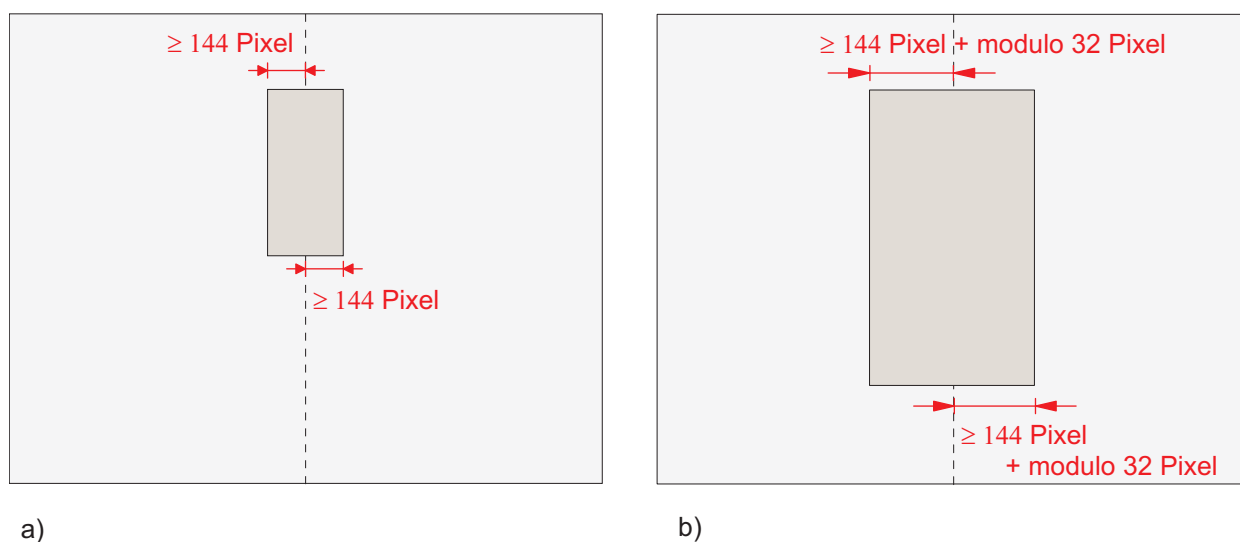
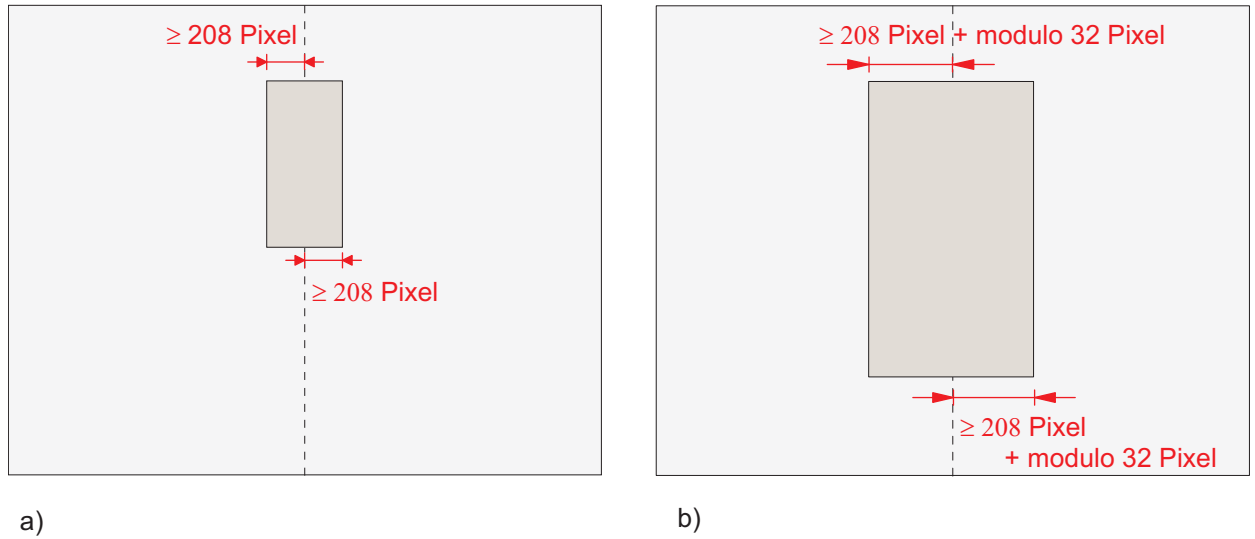
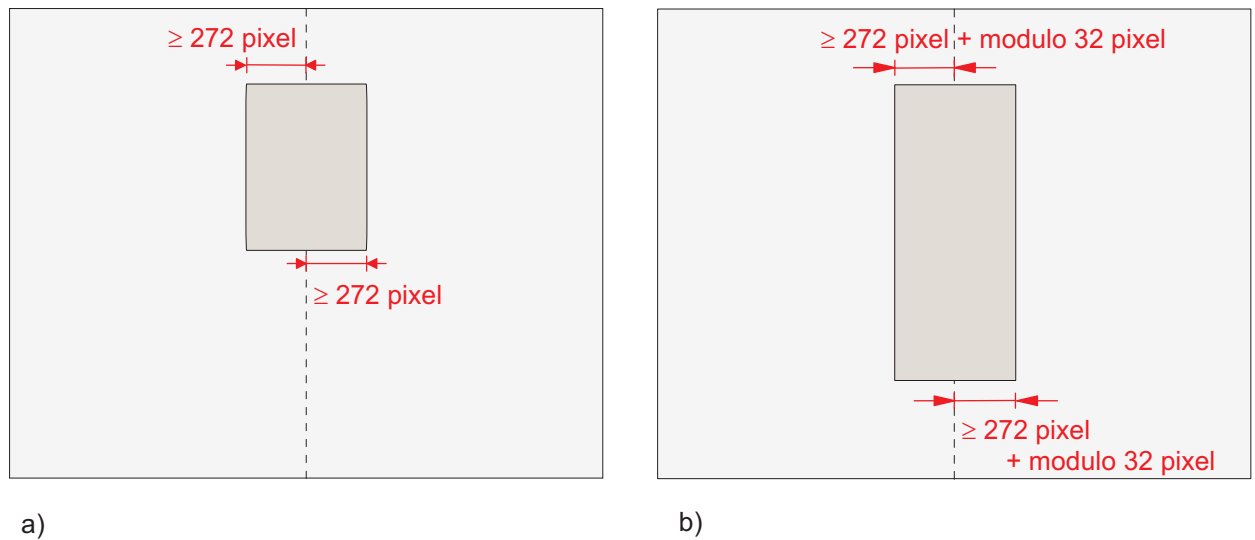
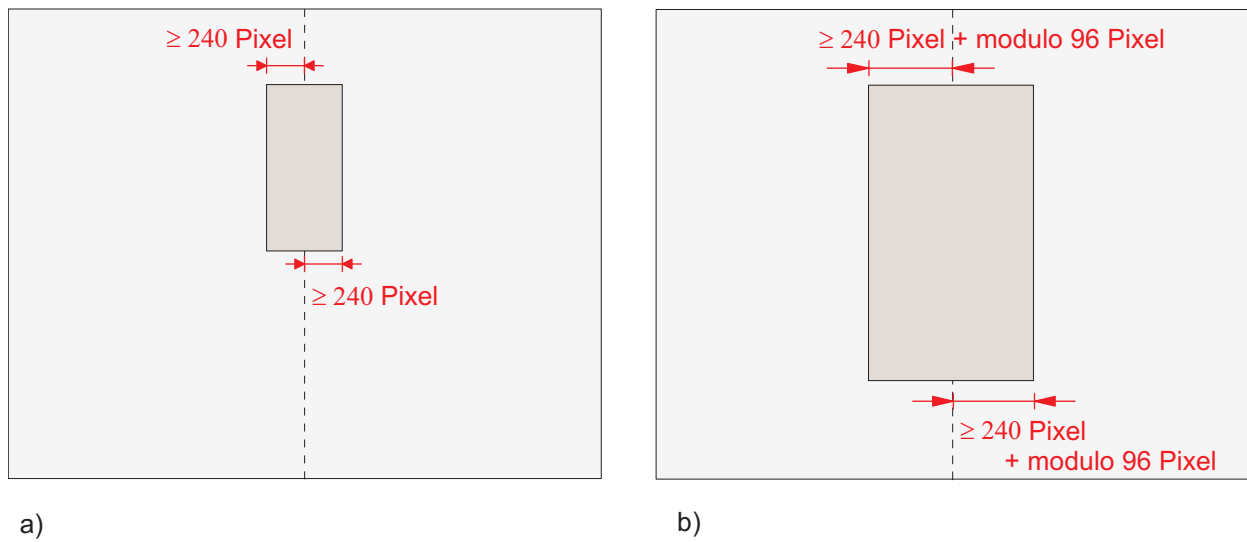

Figure 4.18: Possible configuration of the region of interest for the MV1-D1312(I)-40 CMOS camera
Figure 4.19: Possible configuration of the region of interest with MV1-D1312(l)-80 CMOS camera
Figure 4.20: Possible configuration of the region of interest with MV1-D1312(l)-160 CMOS camera
Figure 4.21: Possible configuration of the region of interest with MV1-D1312(l)-240 CMOS camera
Some applications do not need full image resolution (e.g. 1312 x 1082 pixels). By reducing the image size to a certain region of interest (ROI), the frame rate can be drastically increased. A region of interest can be almost any rectangular window and is specified by its position within the full frame and its width (W) and height (H). Fig. 4.18, Fig. 4.19, Fig. 4.20 and Fig. 4.21 show possible configurations for the region of interest, and Table 4.3 and Table 4.4 present numerical examples of how the frame rate can be increased by reducing the ROI.
The minimum width must be positioned symmetrically towards the vertical center line of the sensor as shown in Fig. 4.18, Fig. 4.19, Fig. 4.20 and Fig. 4.21). A list of possible settings of the ROI for each camera model is given in Table 4.6.